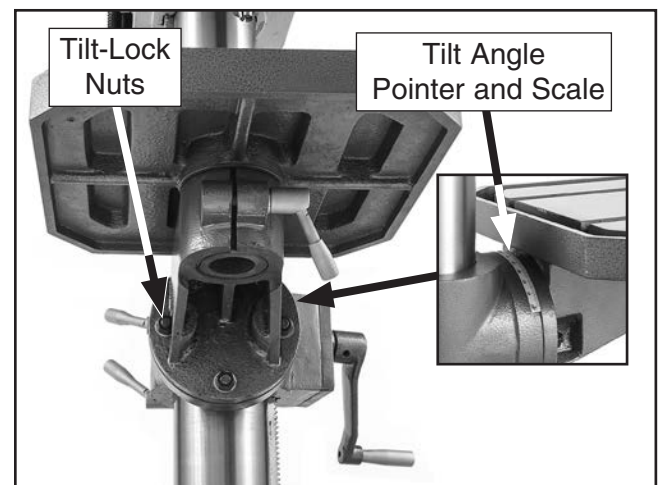

Figure 23. Table tilt controls.
2. Loosen three tilt-lock nuts shown in **Figure 23**.
3. Tilt table until pointer aligns with desired angle on scale (see **Figure 23**).